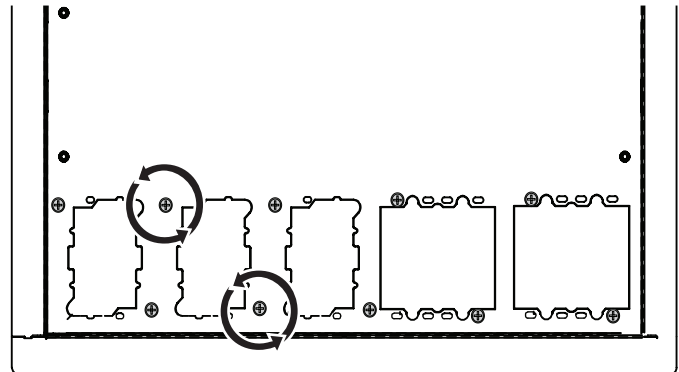

Figure 1 1- and 2-gang electrical knockouts inside the GB-AVSTOR3
- 1) Remove screws from around the desired electrical knockouts (Figure 1) to detach their covers.